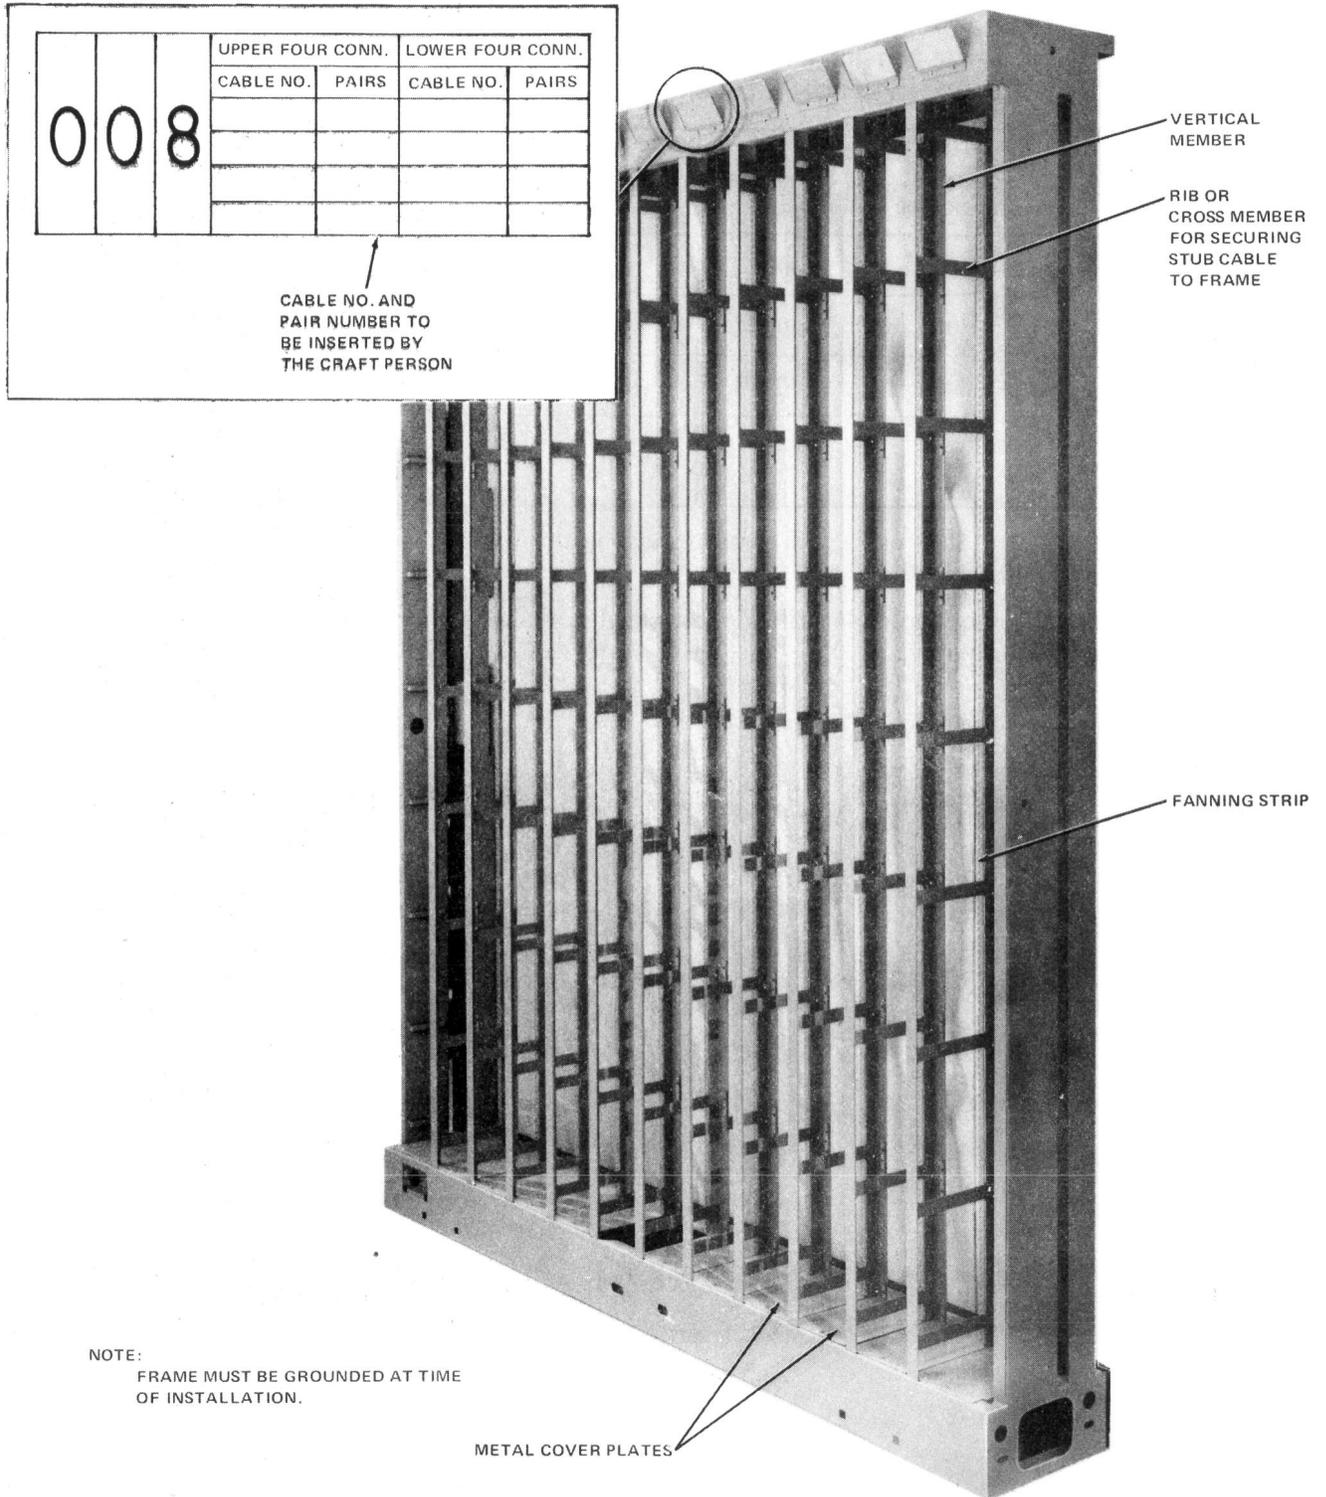

Fig. 4—High Density Modular Protector Frame (ED-97898-31)
3.03 The modular protector frame shown in Fig. 4 is used to mount only the 308-type connector. The protector frame is used in conjunction with the COSMIC and ESS modular distributing frames. Each protector frame module is 8-feet high, 6-feet 6-inches long, and 1-foot deep. Each vertical accommodates eight 308-type connectors, with a total capacity of 800 pairs per vertical or 9600 pairs per module. Cable pairs are terminated on wire wrap terminals on the rear of the 308-type connectors.